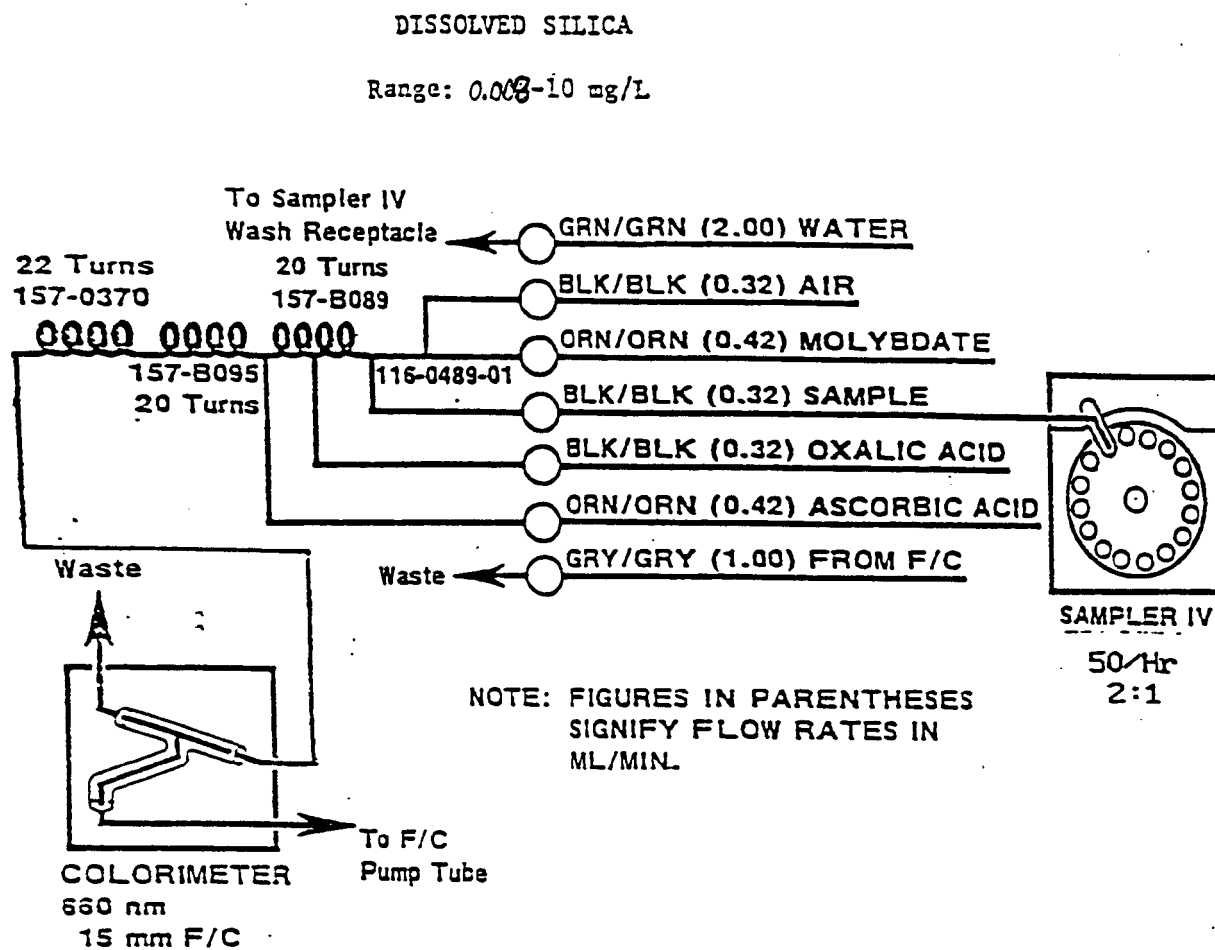

Figure 1.
- 7.1 Set up the manifold as shown in Figure 1. For concentrations greater than 10 mg SiO₂/L, use the dilution loop with appropriate standards.